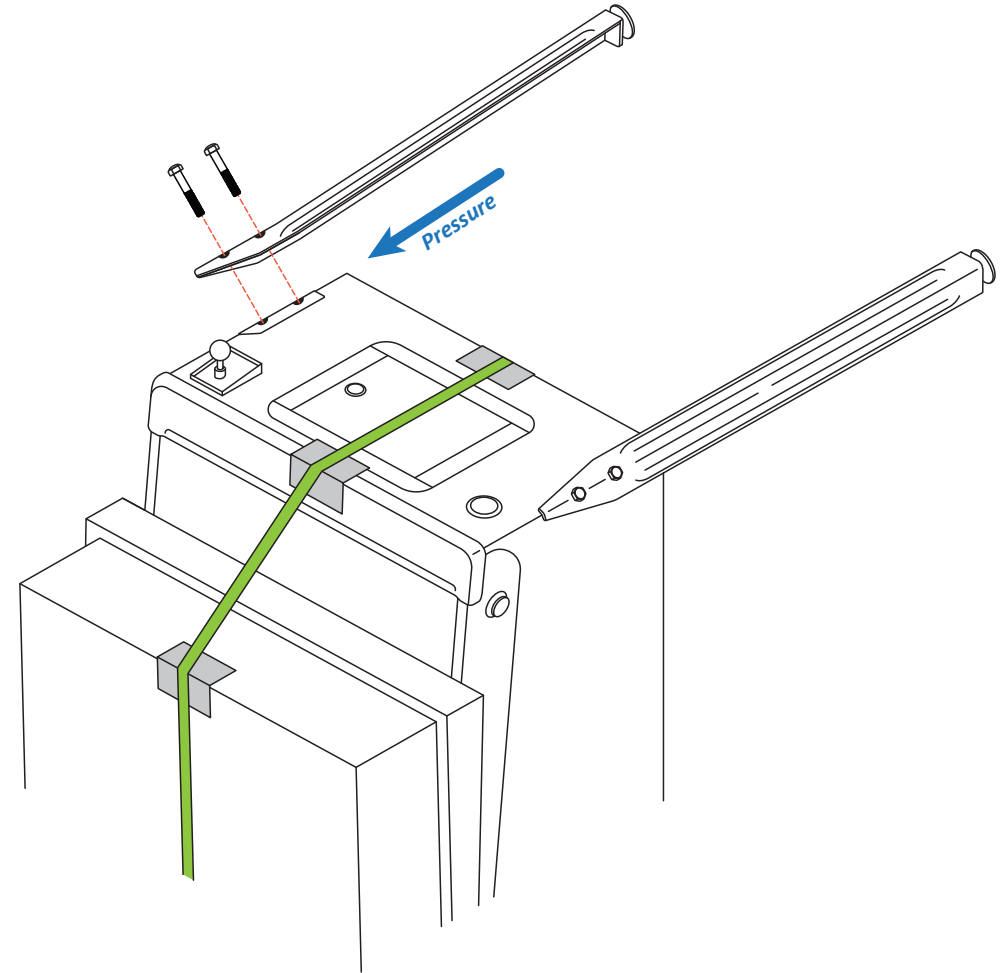

Figure 1-5. Installing the front legs.
5) Using a 5/8" socket and ratchet (or a 5/8" wrench), remove the eight acorn-head leg bolts from the lower cabinet (two at each corner). Thread two leg bolts through each front leg and attach it to the cabinet (see figure 1-5). Use your 5/8" socket to tighten the bolts firmly, while maintaining pressure (in the direction of the blue arrow) on each leg. Alternate tightening the two bolts, as you go, to maintain equal pressure against each cabinet corner.